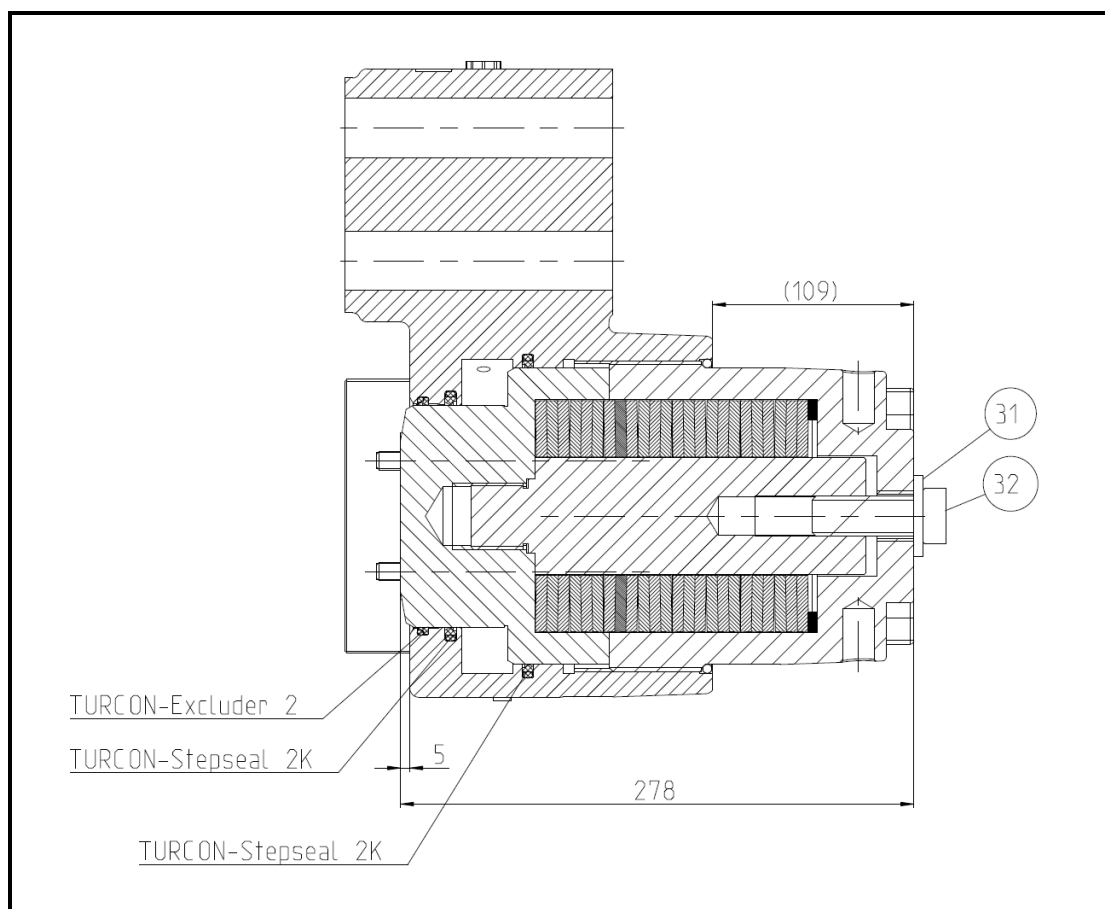
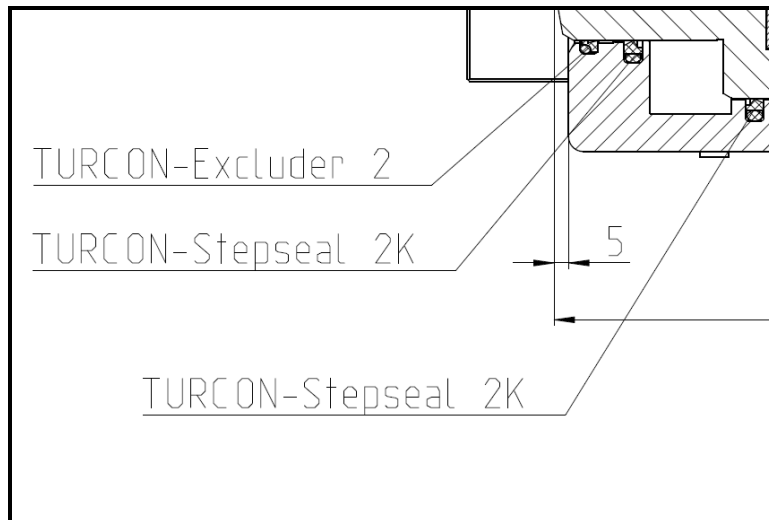

Fig. 11.2
Fig. 11.3
- Remove the Turcon Excluder 2 (item 5), then the Turcon Stepseal 2K (item 4) and item 28, Turcon Stepseal 2K RSK301600, from the brake housing (item 2). Insert the new seal into the brake housing. In doing so, ensure the correct fitting position of the seal (see Fig. 11.3). This should only be carried out by hand, so that the sealing edge is not damaged. To make fitting easier, the seal can be bent into a kidney shape and placed into the groove. Slightly oil the seal. Push the piston in with a press or, using a plastic hammer, hit it centrally into the cylinder borehole until it comes to a stop. Then reassemble the disc springs, shim rings and spring seating body. Consider the dimension 278 shown in Fig. 11.2 during assembly. Then apply oil pressure onto the brake calliper and secure the open position with the securing screw (item 32).